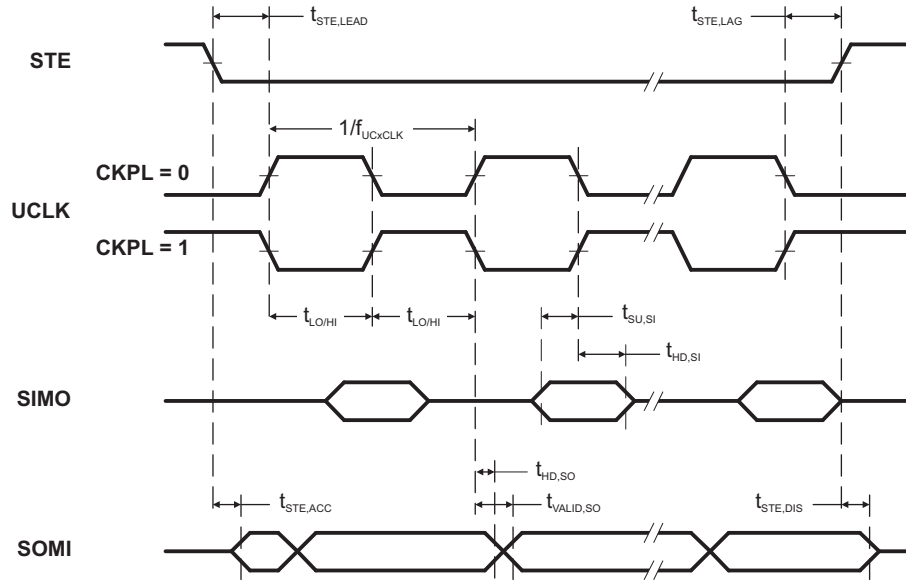
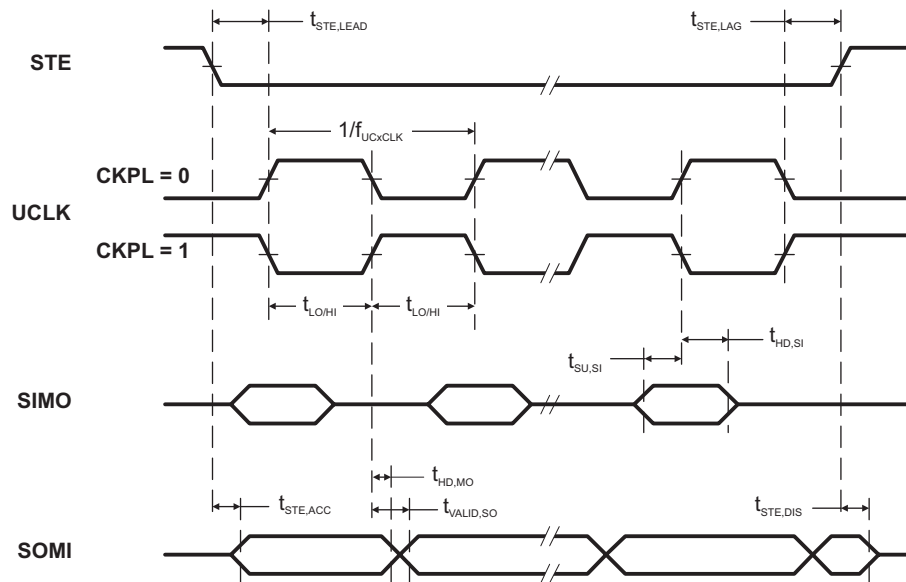

Figure 5-13. SPI Slave Mode, CKPH = 0
Figure 5-14. SPI Slave Mode, CKPH = 1
(see Figure 5-13 and Figure 5-14)
- (1)  $t_{UCxCLK} = 1/2t_{LO/HI}$  with  $t_{LO/HI} \geq \max(t_{VALID,MO(Master)} + t_{SU,SI(USCI)}, t_{SU,MI(Master)} + t_{VALID,SO(USCI)})$ . For the master parameters  $t_{SU,MI(Master)}$  and  $t_{VALID,MO(Master)}$ , see the SPI parameters of the attached slave.
- (2) Specifies the time to drive the next valid data to the SOMI output after the output changing UCLK clock edge. See the timing diagrams in Figure 5-13 and Figure 5-14.
- (3) Specifies how long data on the SOMI output is valid after the output changing UCLK clock edge. See the timing diagrams in Figure 5-13 and Figure 5-14.